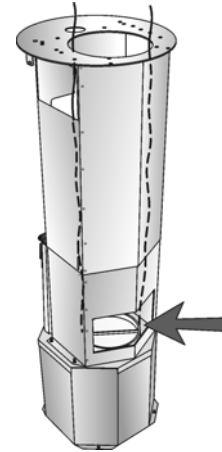

Fig. 10
7. Pull out the outgoing air tube through the opening at the back (Fig. 10).